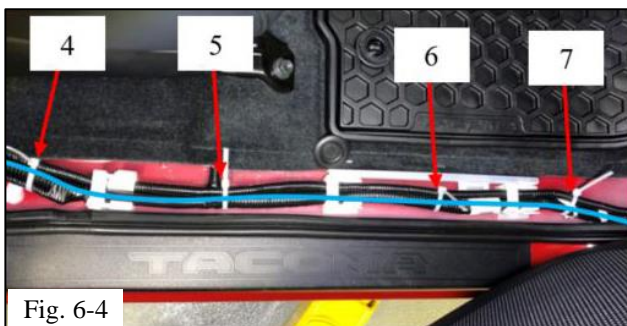

Fig. 6-4
- (d) Dislodge the white claws and route the Body wire harness along the vehicle harness and secure with wire ties #4, #5, #6 and #7 as shown (Fig. 6-4).